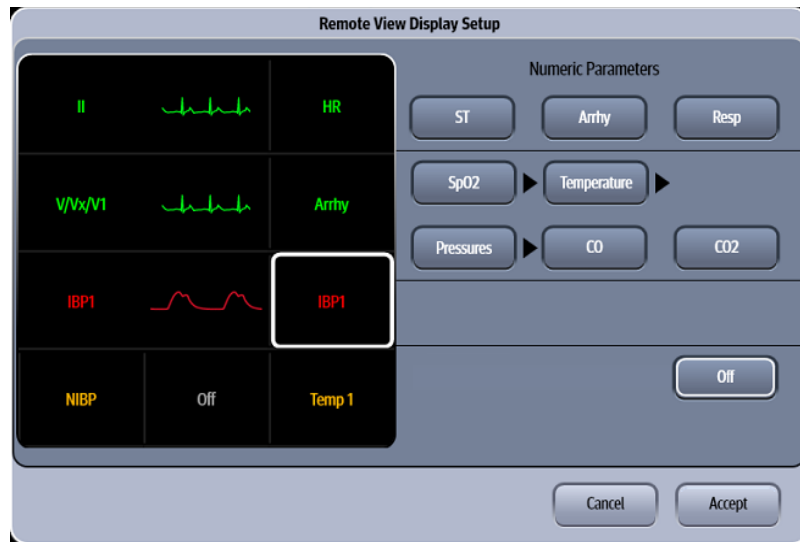

FIGURE 23-3 Example Remote View Display Setup Dialog
- As the screen message indicates, select an area on the grid to see a list of available parameters. A list of digital or waveform parameters displays to the right of the grid (as shown in FIGURE 23-3).